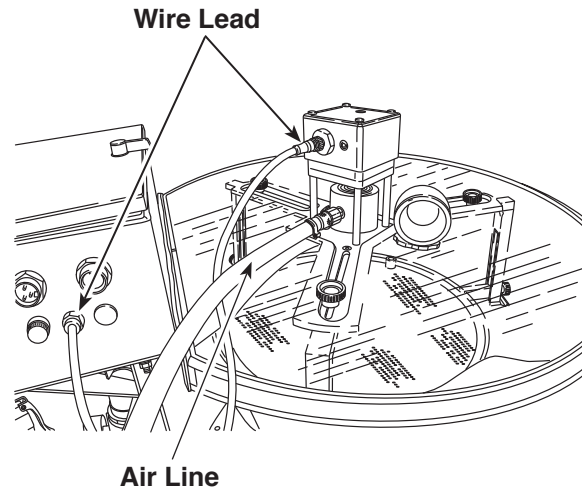

Figure 13
1. Attach the wire lead from the control box to the motor fixture. See Figure 13.